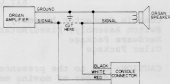

Fig. 1B
3. Attach the WHITE wire to the speaker signal terminal. (If the wires in the organ are cut (Fig.1B), connect the side coming from the amplifier to the RED wire of the console connector. Connect the wire which is still attached to the speaker to the WHITE wire.)